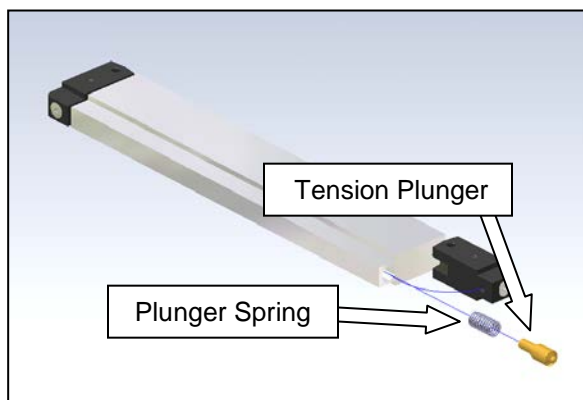

Figure 3-339. Removing the Plunger Spring
6. With the heater block hanging loose from the horizontal plate, rotate one end of the jaw end block outwards, exposing the tension plunger. Remove the plunger and plunger spring, and replace. Repeat on the other jaw end block (Figure 3-339).